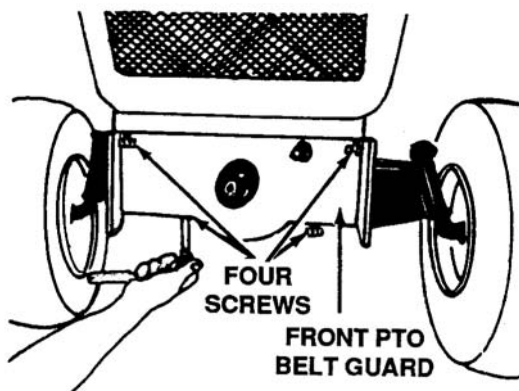

Figure 7-7. Removing PTO Belt Guard Assembly
1. Take off the front PTO belt guard assembly by removing four hex screws. See Figure 7-7.